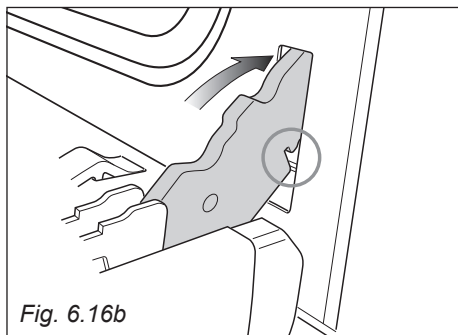

Fig. 6.16b
2. Insert the hinge tongues into the slots, making sure that the groove drops into place as shown in the figure 6.16b.